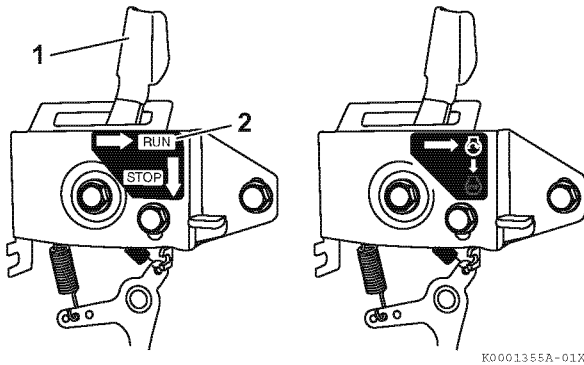

Figure 13
2. If your engine speed control is similar to **Figure 13** slide the engine speed control lever (1, **Figure 13**) to the RUN position or (2, **Figure 13**).